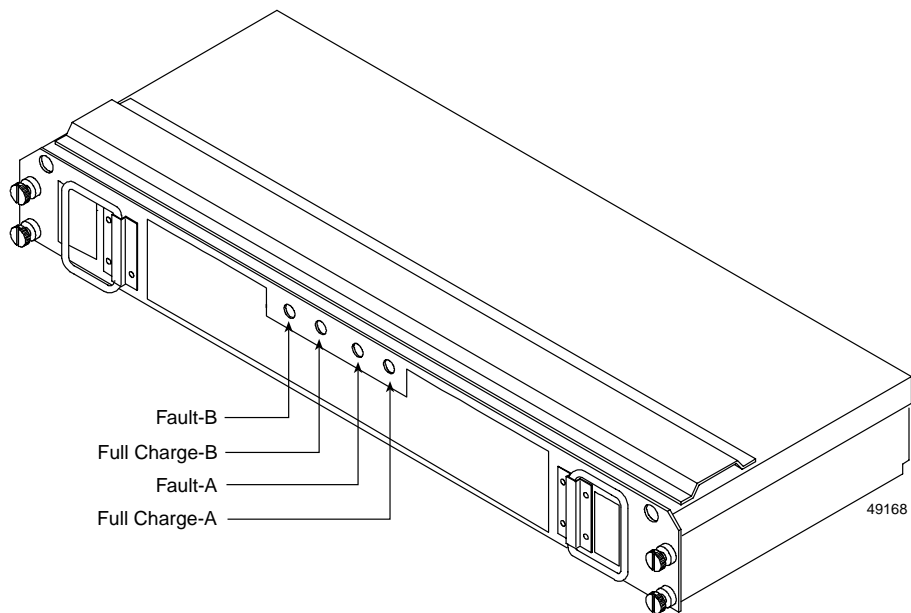

Figure 4-6 Battery Canister Indicators
8. Check the battery canister indicators (see Figure 4-6). When properly charged, both Full charge indicators on the front of the battery canister will glow steadily.